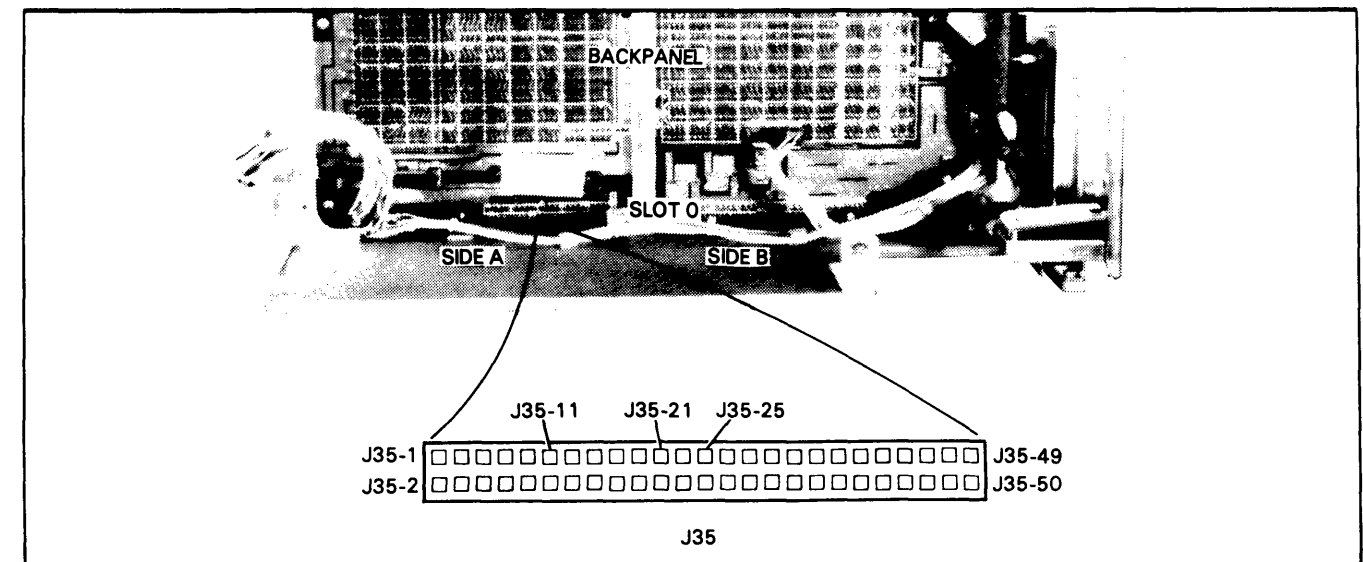

Figure 6.7 Jack 35
- b. If the light is NOT on, check the $\overline{\text{ONLED-P}}$ voltage at J35-11 (see Figure 6.7).
4. Short MEMD at J35-21 to GND at J35-1 (see Figure 6.7). Before continuing the checkout, make sure you have shorted the correct pins.
- Check the -11V voltage at J35-25 (see Figure 6.7).
2. Check the +12 MEM voltage at location J35-3 (see Figure 6.7).